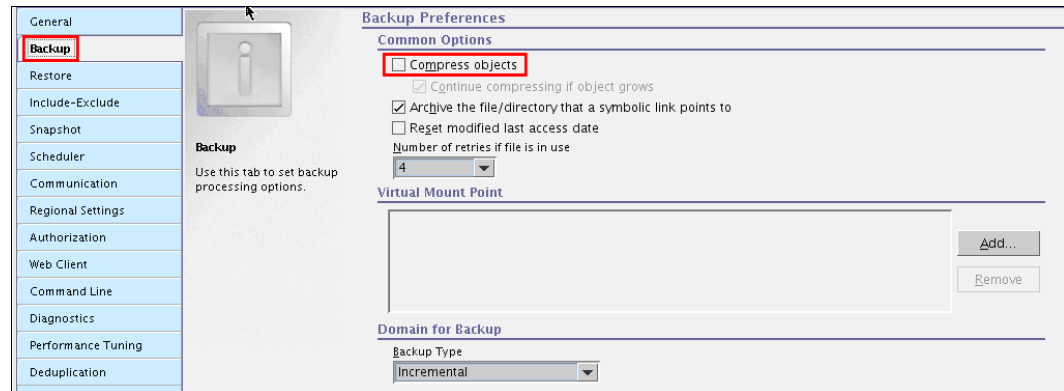

Figure 20-22 Backup Preferences window
4. In the menu at the left, click **Backup** (Figure 20-22). The Backup Preferences page opens.